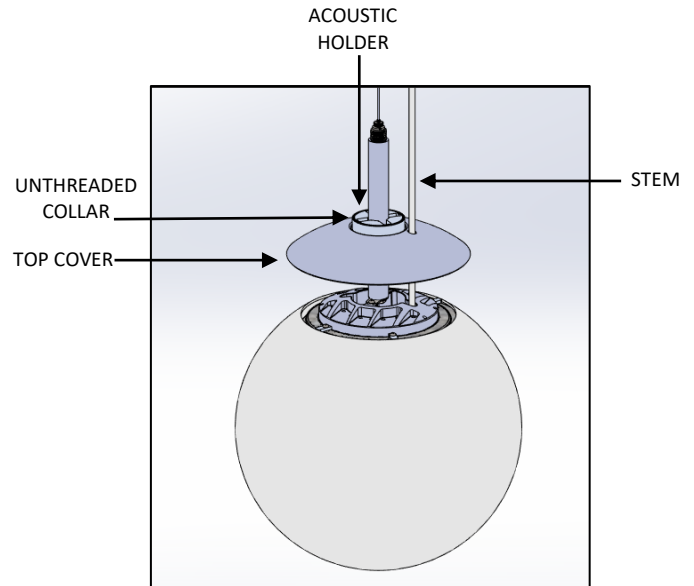

FIG. 39 – ACOUSTIC HOLDER INSTALLATION
31. Carefully slide the TOP COVER, UNTHREADED COLLAR, and the bottom ACOUSTIC HOLDER back down as shown below in FIG. 39. Be careful not to damage fixture finish.